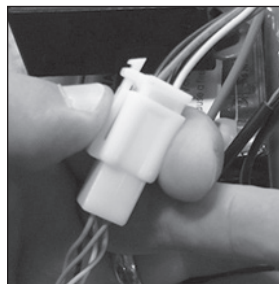
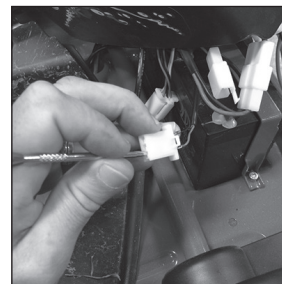

Figure 4a
Figure 4b
Locate the white plastic connector on the charger port that attaches to the control module and disconnect by depressing the tab on the connector (Figure 4a). Using a small pointed object, carefully depress the two (2) locking pins inside the white plastic connector attached to the safety button and remove the connector (Figure 4b).